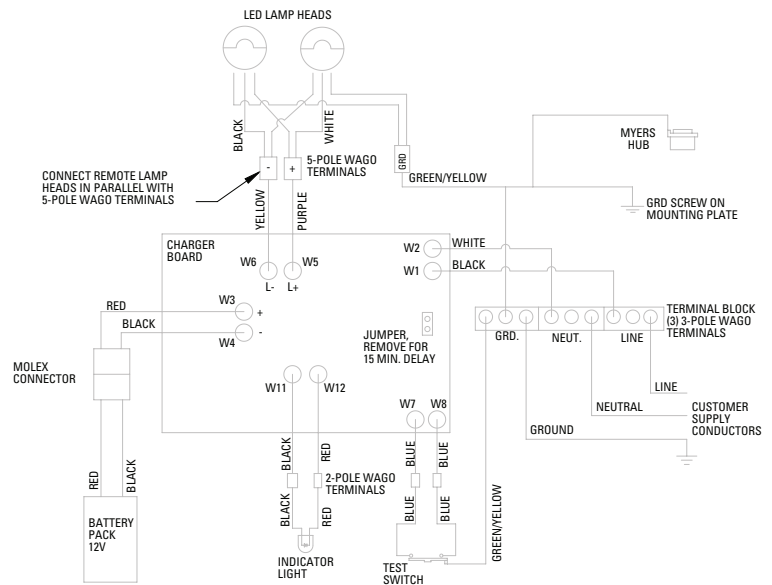

Figure 4. N2LPSM2 Wiring Diagram
2. Make all wiring connections following wiring diagram provided in Figure 4.
**NOTE:** Although generally not required, the interior assembly may be removed to facilitate wire pulling. Remove four (4) 1/4-20 screws and lock washers and disconnect wire leads at the pilot light, pushbuttons and lamp heads. DO NOT handle interior roughly or place it in an area where dirt, dust or grime will damage it. Replace as soon as all wiring has been pulled into enclosure. Torque four (4) screws to 21-25 in.-lbs.
- 2b. Connect battery connector to circuit board (see Figure 4).